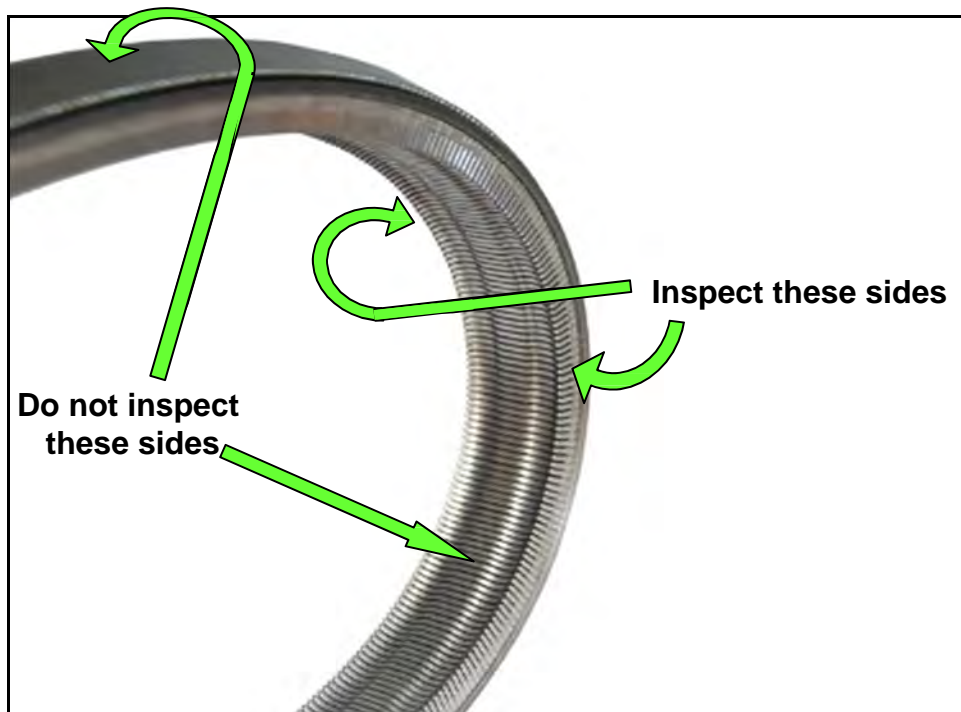

Figure 28
16. Mark the driver side (LH) front wheel with a suitable marking.
17. Inspect the entirety of the two sides of the belt that come in contact with the pulleys (Figure 28).